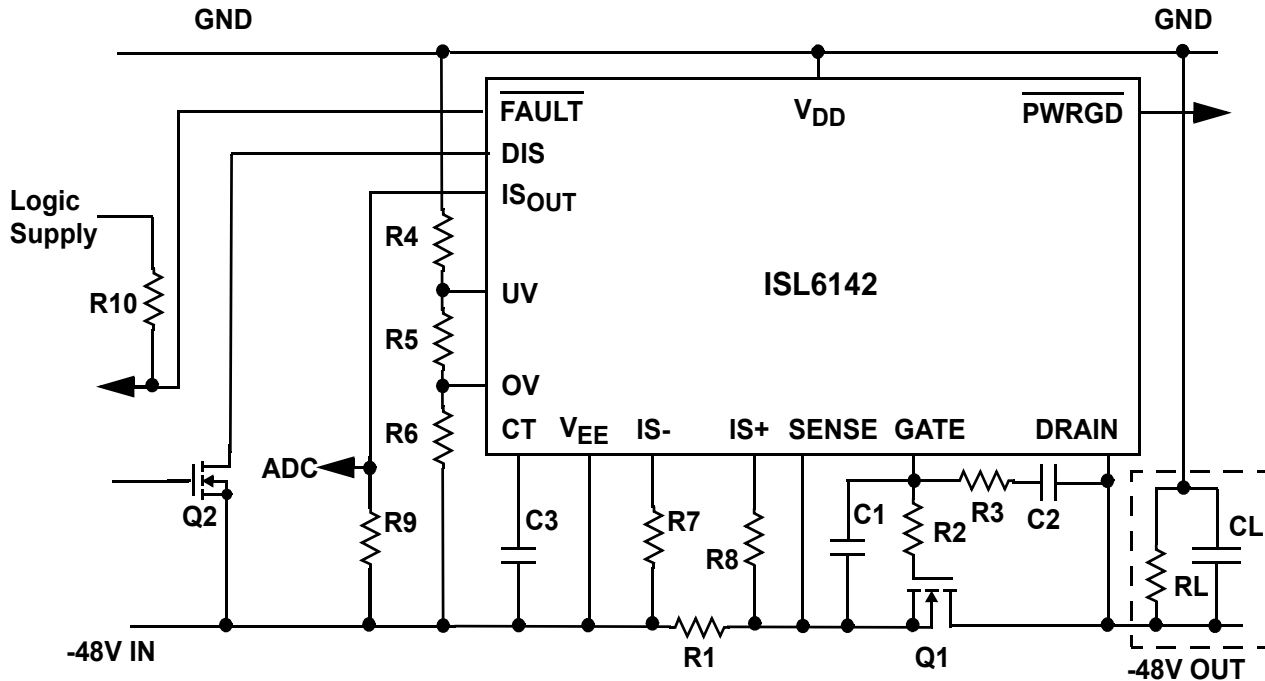

FIGURE 29. TYPICAL APPLICATION WITH MINIMUM COMPONENTS
(See fig 29 for reference)
The values of R4 = 549K, R5 = 6.49K, and R6 = 10K shown in figure 29 set the Under-Voltage threshold at 43V, and the Over-Voltage, turn off threshold to 71V. The Under-Voltage (UV) comparator has a hysteresis of 135mV's (4.6V of hysteresis on the supply) which correlates to a 38.4V turn off voltage. The Over-Voltage comparator has a 25mV hysteresis (1.4V of hysteresis on the supply) which translates to a turn on voltage (supply decreasing) of approximately 69.6V.